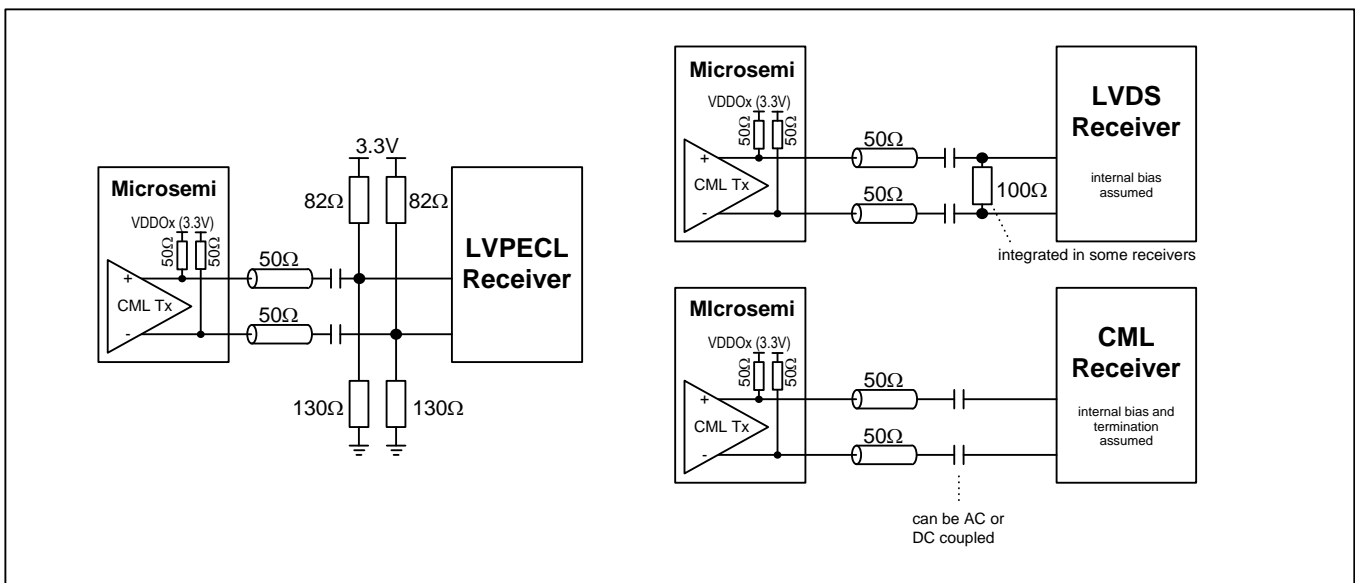

Figure 24 – Example External Components for CML Output Signals
**Note 1:** The differential CML outputs can easily be interfaced to LVDS, LVPECL, CML and other differential inputs on neighboring ICs using a few external passive components. See Figure 24 for details.